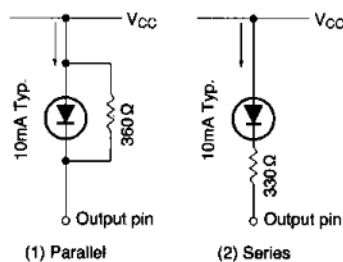

Fig. 3
$C_2$  is a coupling capacitor, and the potentiometer VR varies the input level. Input a fixed voltage level and adjust the potentiometer so that the LED lights at 0dB. To reduce the LED current, connect a resistor either in parallel (Fig. 3 (1)) or in series (Fig. 3 (2)) with the LED.